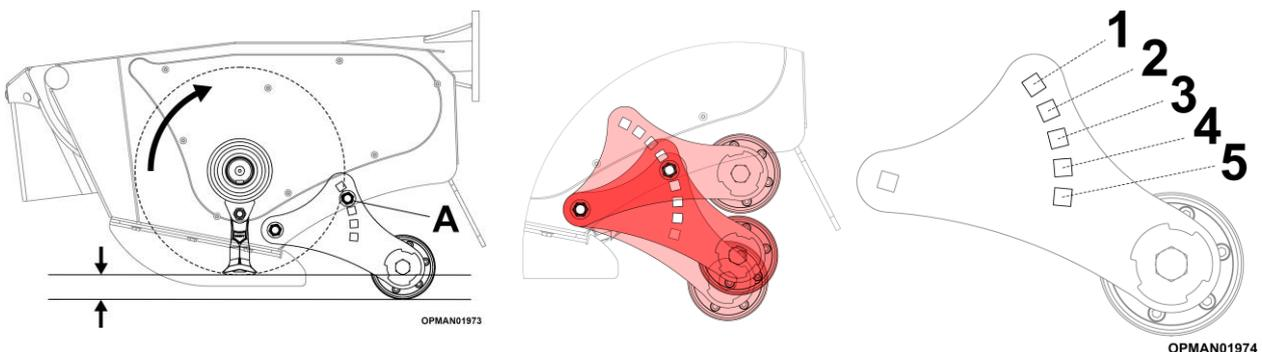

Figure 3.39
With reference to Figure 3.39, to alter the minimum height of cut:
- 3.9.1.3 Loosen and remove the coach bolt and nut from both ends of the roller adjuster plate; see Figure 3.39 (A).